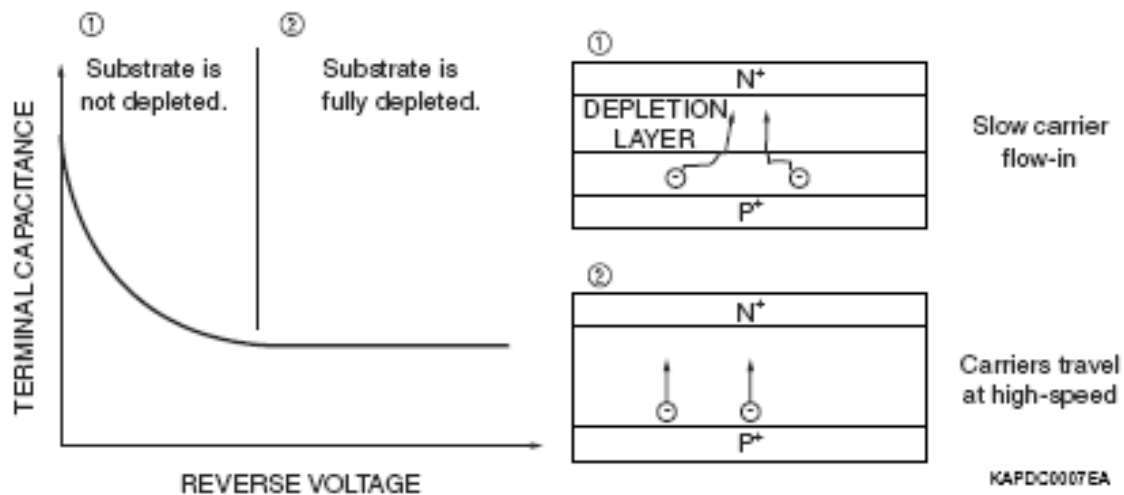

Figure 1-4 Terminal capacitances vs. reverse voltage
APDs have the same terminal capacitance characteristics as those of normal photodiodes. To ensure high-speed response, it is necessary to apply a reverse voltage which makes the depletion layer thicker than the penetration depth of the light into the light absorption layer. If carriers are generated outside the depletion layer, they cause problems such as slow signal decay time. Since the terminal capacitance depends on the depletion layer thickness, it can be used as a guide to find to what extent the semiconductor substrate is depleted. Unlike the gain characteristics, the terminal capacitance is not temperature-dependent. However, it does vary depending on the reverse voltage, as shown in region (1) of Figure 1-4. So use the APD at a reverse voltage that ensures a constant terminal capacitance as in region (2)